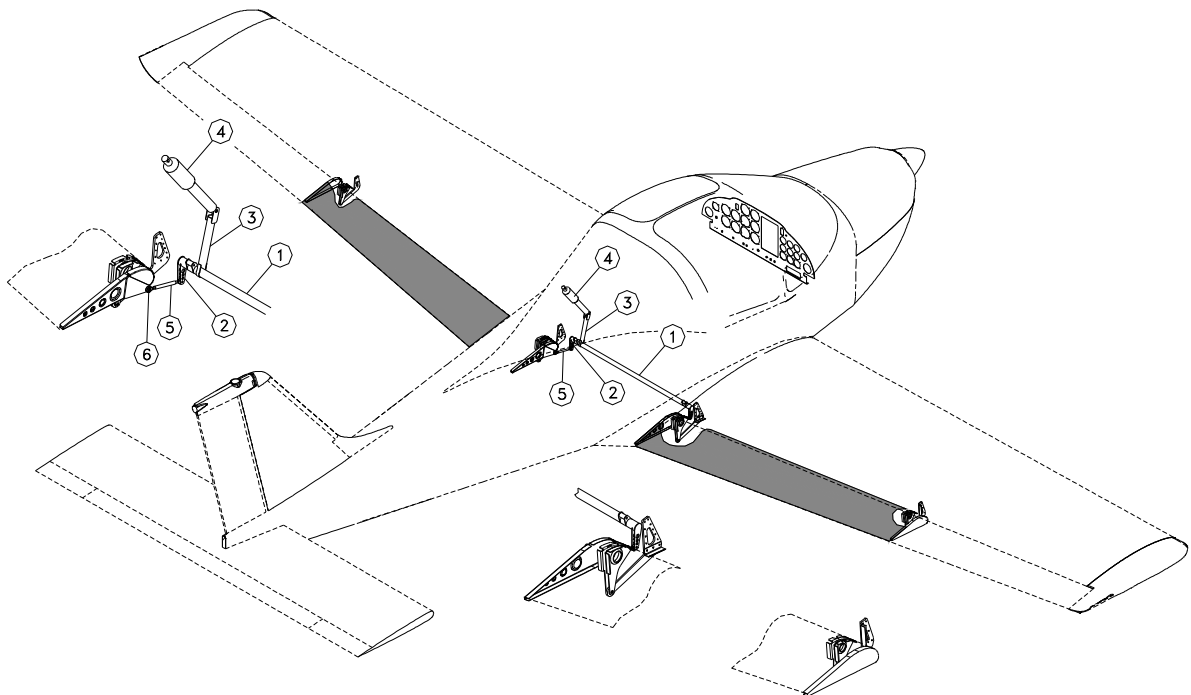

FIGURE C-4 FLAP CONTROL
- G. Disconnect flap control (see fig. C-4) by removing roller bearings (6) that link push-pull rods (6) to flap control plate.
2.1. FLAP CONTROL (SEE FIG. C-4)